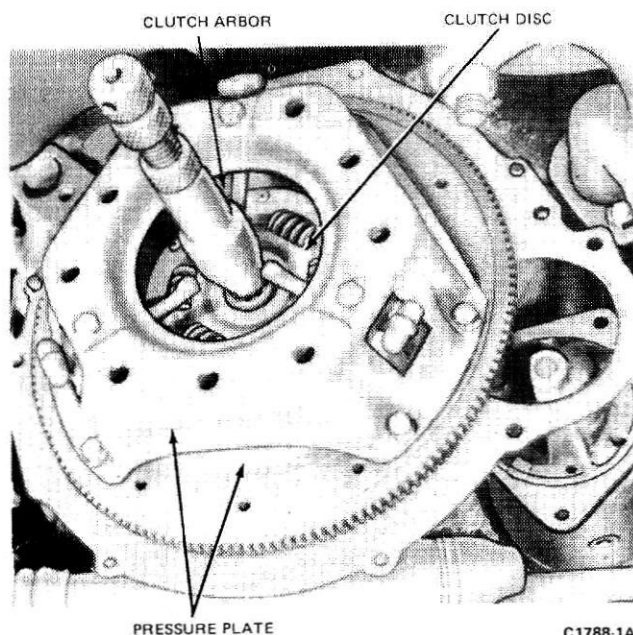

FIG. 2 Installing Clutch Disc—Typical
Installation (See Fig. 2)
3. Align the clutch disc using the proper alignment tool (See Fig. 2) inserted in the pilot bearing. Alternately tighten the cover bolts to specifications. Remove the alignment tool.
4. Apply a light film of lithium base grease (C1AZ-19590-B or equivalent) to (1) the outside diameter of the transmission front bearing retainer, (2) the release lever fork and anti-rattle spring where they contact the release bearing hub, and (3) to the release bearing surface that contacts the pressure plate release fingers.